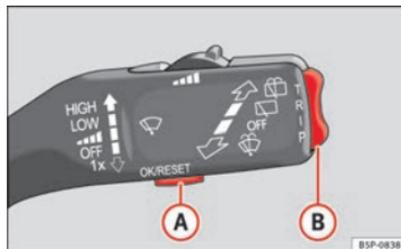

Fig. 43 Windscreen wiper lever: control buttons.
- Select the option **Vehicle status** from the main menu: “Main menu” and press button  on the windscreen wiper lever  → Fig. 43. **or**